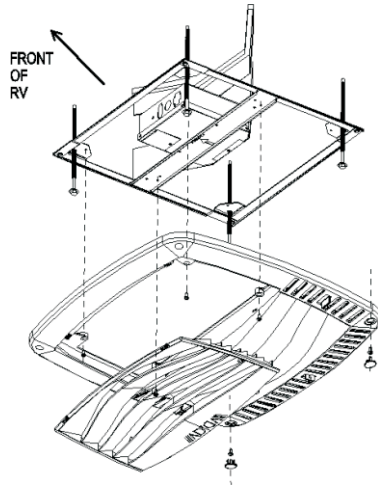

FIG.9
- 3. Position the mount frame into the ceiling opening. See Figure 9.
- 7. Connect 115VAC and 12VDC wires, Freeze Sensor Thermistor, Heat Pump specific (Outdoor Coil Thermistor, Outdoor Ambient Thermistor), and thermostat cable according to the wiring diagram. Install the cover over the electrical box using the small screw provided as shown in Figure 9.